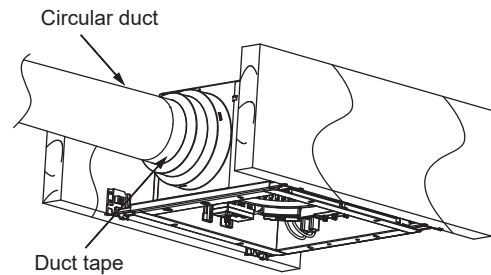

**Fig. 5**
- Push the fan body upwards until the fan body engages the buckle on the adaptor and secure the fan body by using the other 3 self-tapping screws (ST4X30). See Fig. 5